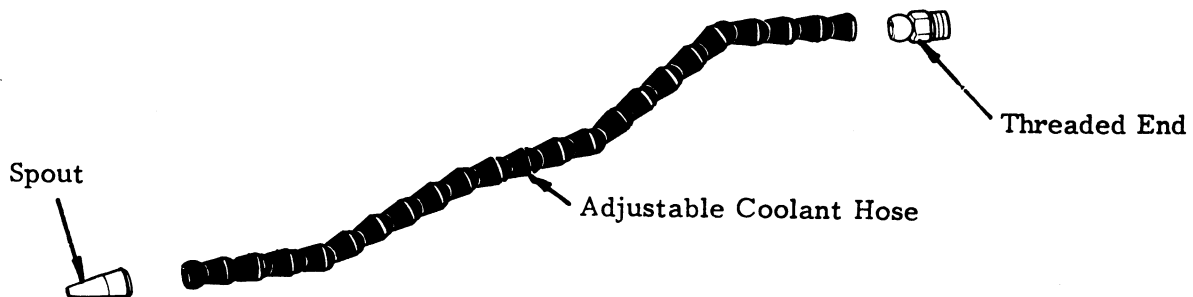

FIGURE 3A
3. Assemble the three pieces of the adjustable coolant hose as shown in Figure 3A. The pieces simply push together. After assembling the hose, fasten it to the water jug by screwing the threaded end of the hose into the valve of the jug. A thread sealer may be necessary to prevent leakage.